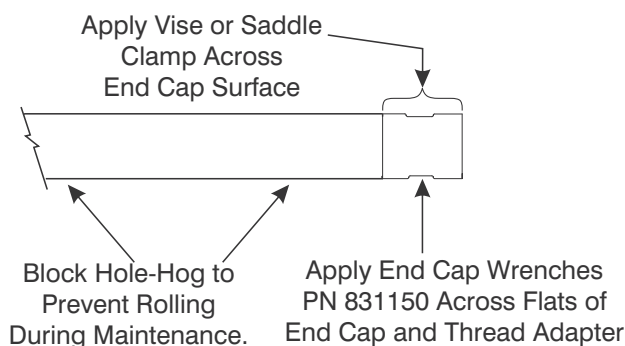

Figure 11-18. Secure Hole-Hog for Whip Hose Installation
1. Place on a clean flat work bench: the Whip Hose (10), the Quick Disconnect Fitting (11) and Gasket, assembled as described in Section 11.7.2.
- a. When using the End Cap Wrench, grip the Hole-Hog across the wrench flats of the End Cap (8) as shown in Figure 11-18.
- b. When using a vise or saddle clamp, grip the Hole-Hog across the raised area of the End Cap (8) on either side of the wrench flats as shown in Figure 11-18.
7. Fit an 11/16-inch open-end wrench across the exposed flats of the Valve Stem. Brace the wrench against the edge of the End Cap and pry the stem outward with enough force to prevent the Valve Stem from pulling back into the End Cap as shown in Figures 11-18 and 11-16.